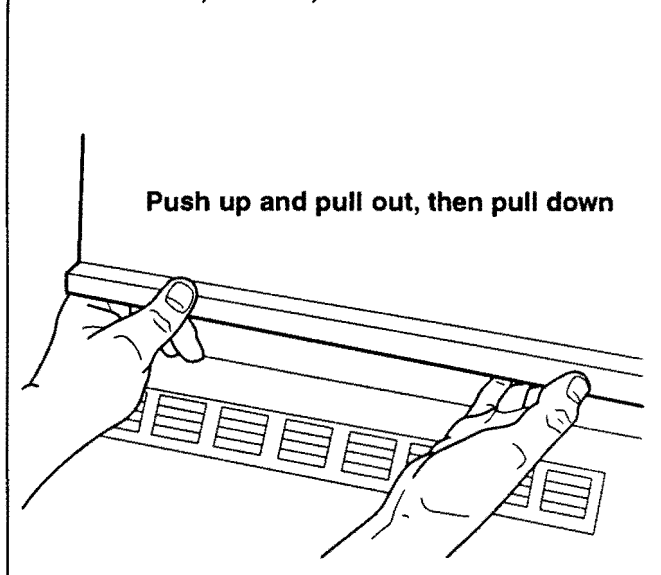

Figure 2-16. Back Duct Removal
- 1. To access the thermistor in the upper cabinet zone of the 700TR, lift the bottom of the back duct cover up, then pull forward and down (Figure 2-16). Once the cover is removed, the thermistor is exposed at the bottom right rear wall, remove the clamp and disconnect the electrical connection to remove.
- 1. To access the thermistor in the upper refrigerator zone, lift the bottom of the back duct cover up, then pull forward and down (Figure 2-16). Once the cover is removed, the thermistor is exposed at the bottom right rear wall, remove the clamp and disconnect the electrical connection to remove.